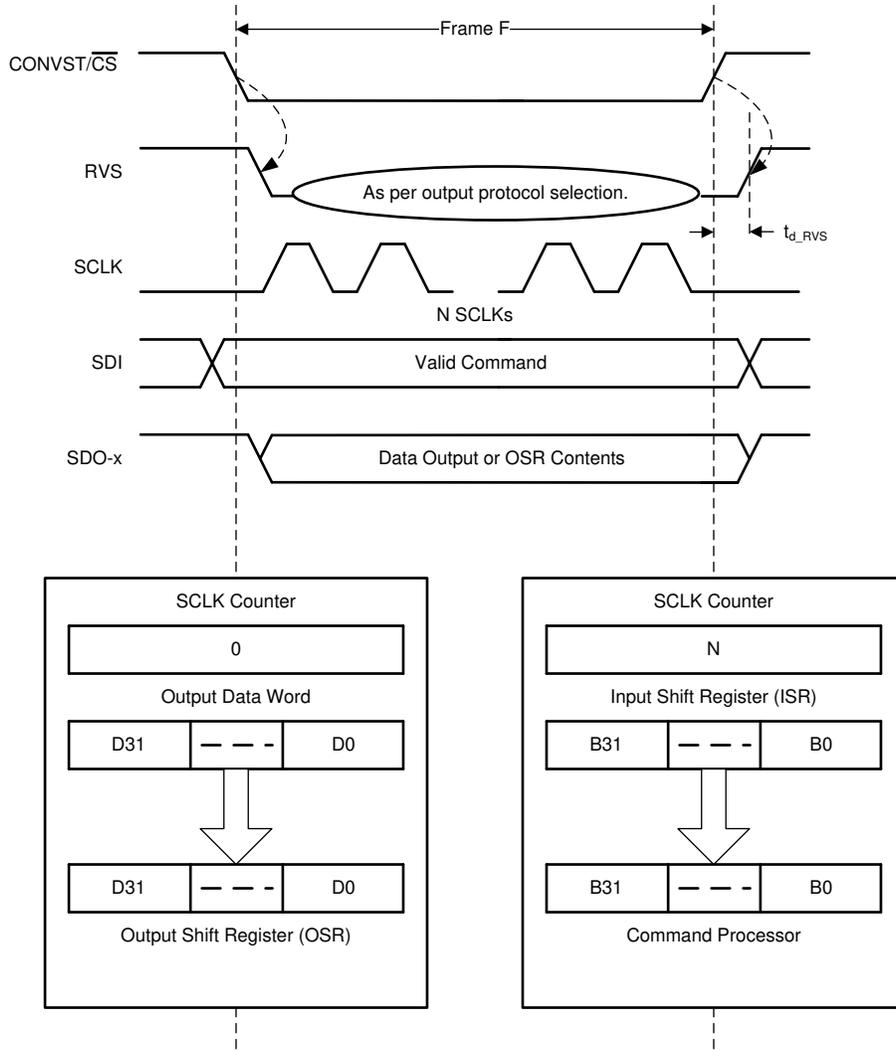

Figure 7-29. Data Transfer Frame
A data transfer frame between the device and the host controller begins at the falling edge of the CONVST/ $\overline{\text{CS}}$  pin and ends when the device starts conversion at the subsequent rising edge. The host controller can initiate a data transfer frame by bringing the CONVST/ $\overline{\text{CS}}$  signal low (as shown in Figure 7-29) after the end of the CONV phase, as described in the CONV State section.
- The device takes control of the data bus. As illustrated in Figure 7-29, the contents of the output data word are loaded into the 32-bit output shift register (OSR).
- As illustrated in Figure 7-29, the contents of the input shift register are transferred to the command processor for decoding and further action.